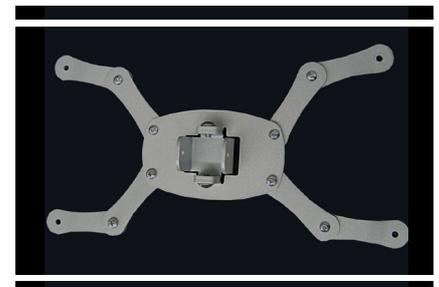

Fig. 6
Join the mounting plates using the socket head screws (H), in order to create the spider system (Fig. 6) that will enable you to fix the bracket to the projector.